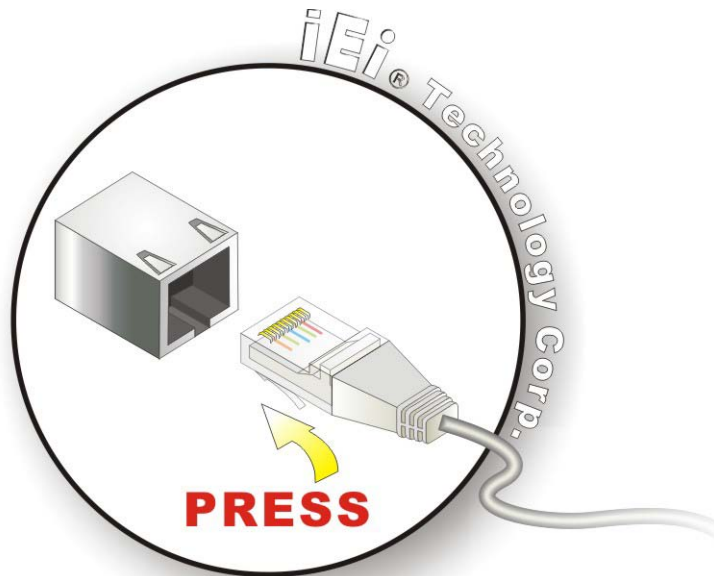

Figure 3-11: LAN Connection
- Step 2:** Align the two retention screw holes in each bracket with the corresponding retention screw holes on the sides of the bottom surface (**Figure 3-11**).
- Step 3:** Secure the brackets to the system by tightening two retention screws into each bracket (**Figure 3-11**).
- Step 2: Align the connectors.** Align the RJ-45 connector on the LAN cable with one of the RJ-45 connectors on the ECN-380-QM87. See Figure 3-11.